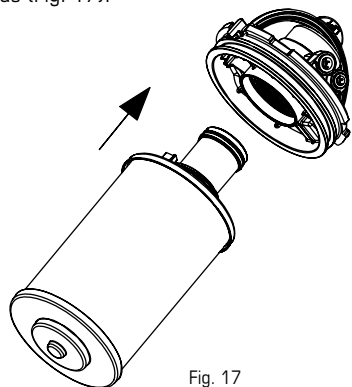

Fig. 17
4. Push Filter Cartridge firmly into Filter Bracket to properly engage threads (Fig. 17).